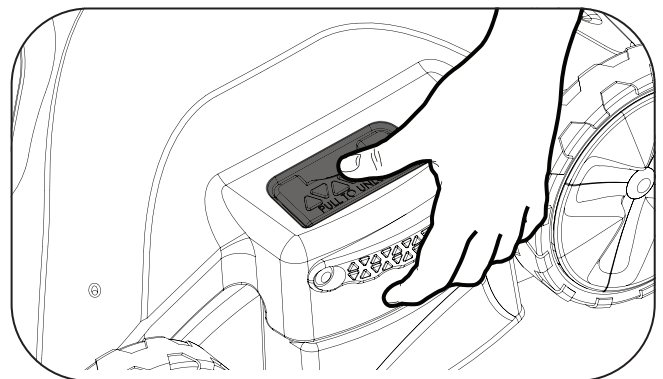

Figure 13. Remove the Cover
2. Push side tabs down and outward to release the cleaner lid (Figure 13).